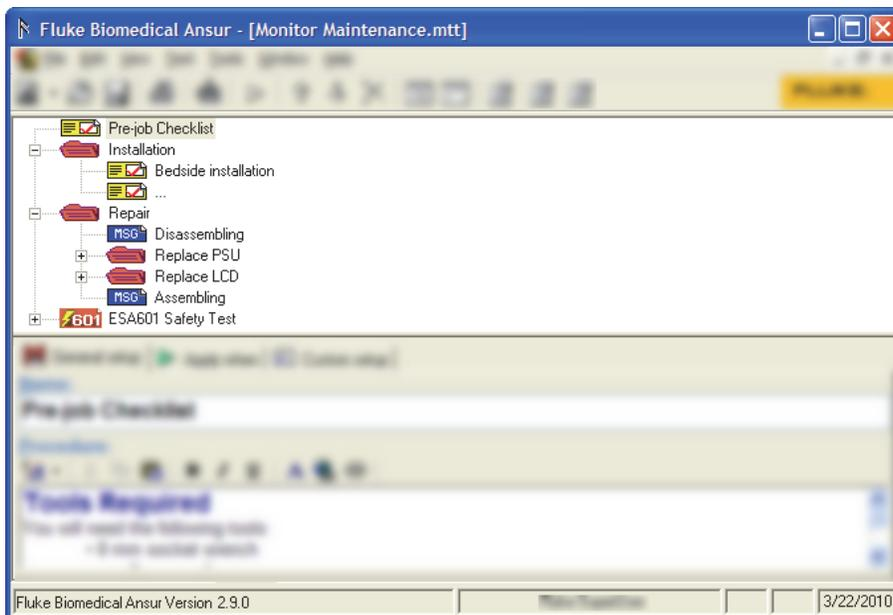
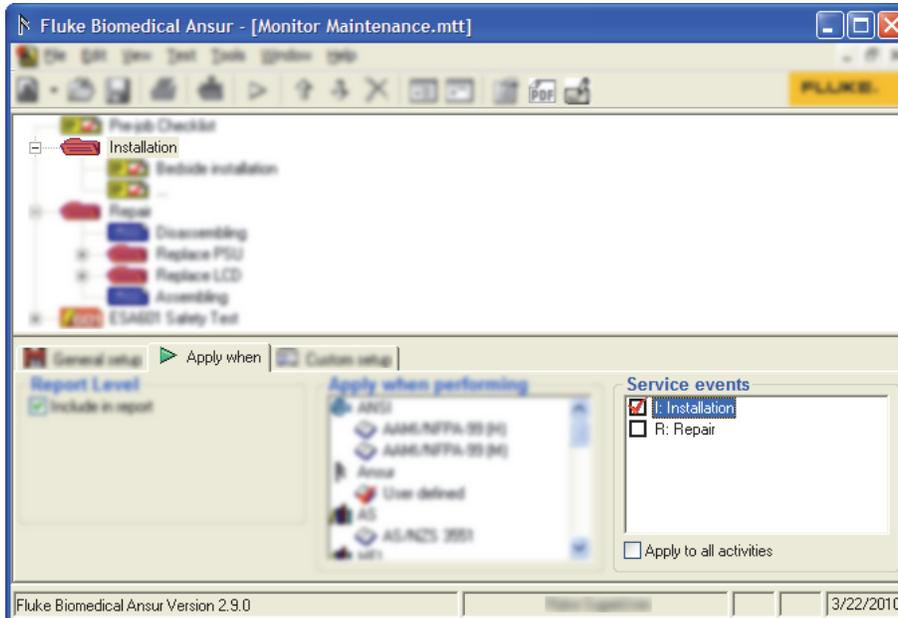

Figure 3-61. Sample Template for Monitor Maintenance
Figure 3-66. Assigning Service Events
1. Create a test template and add visual tests and safety tests to meet the needs for service procedures and safety testing. Figure 3-61 shows an example template with the Ansur explorer hidden.
- To assign tests to a service event, click the test element named **Installation** in the template window shown in Figure 3-61. Then click the **Apply when** tab in the test element setup frame. The service events just created are listed in the frame named **Service events** as shown in Figure 3-66.